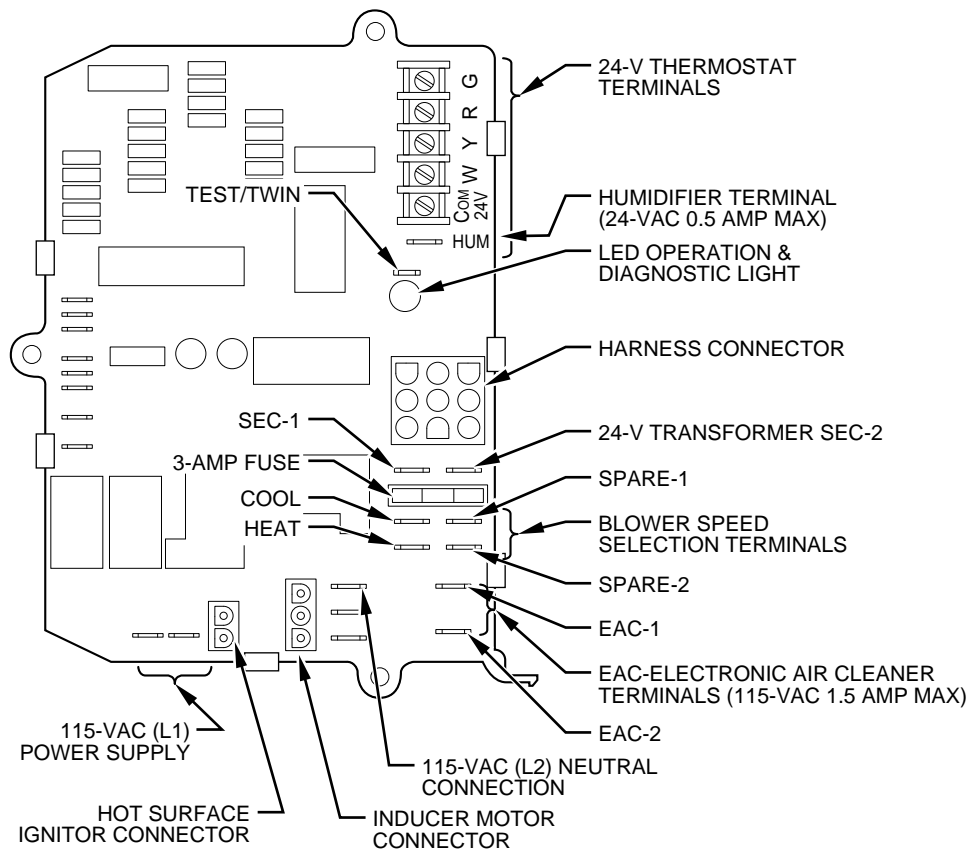

Fig. 11—Control Board
The 24-v circuit contains an automotive-type, 3-amp fuse located on the control board. (See Fig. 11.) Any direct shorts of the 24-v wiring during installation, service, or maintenance will cause this fuse to blow. If fuse replacement is required, use **ONLY** a fuse of identical size.
- d. BRIEFLY short (jumper) TEST, 1/4-in. quick-connect terminal on control center (adjacent to LED diagnostic light), and Com terminal on thermostat connection block. (See Fig. 11.)